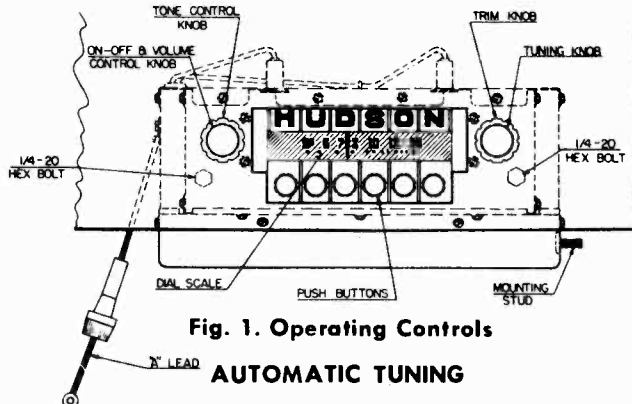

Fig. 1. Operating Controls
The tone control is located directly behind the volume control knob (Fig. 1). Rotating this control to the right or left will change the tone of the receiver. Tuning to the right will emphasize the high notes, while turning to the left will emphasize the bass notes.
2. Turn the manual tuning control knob (Fig. 1) to tune in the desired station. Carefully tune to the middle of the signal for clearest reception.
To tune manually it is only necessary to turn the manual tuning knob (on the right side of the receiver, see Fig. 1). Tune to exact frequency for the best tone quality. This can be done at any time without disturbing the automatic setting
15. Place tone control knob onto shaft, put on volume control knob, tighten set screw (Fig. 1). Be sure there is no binding.
16. Place knob tension spring No. 80-594 over the tuning shaft. Put on trim ring and press on tuning control knob as far as it will go. Tighten set screw (Fig. 1).